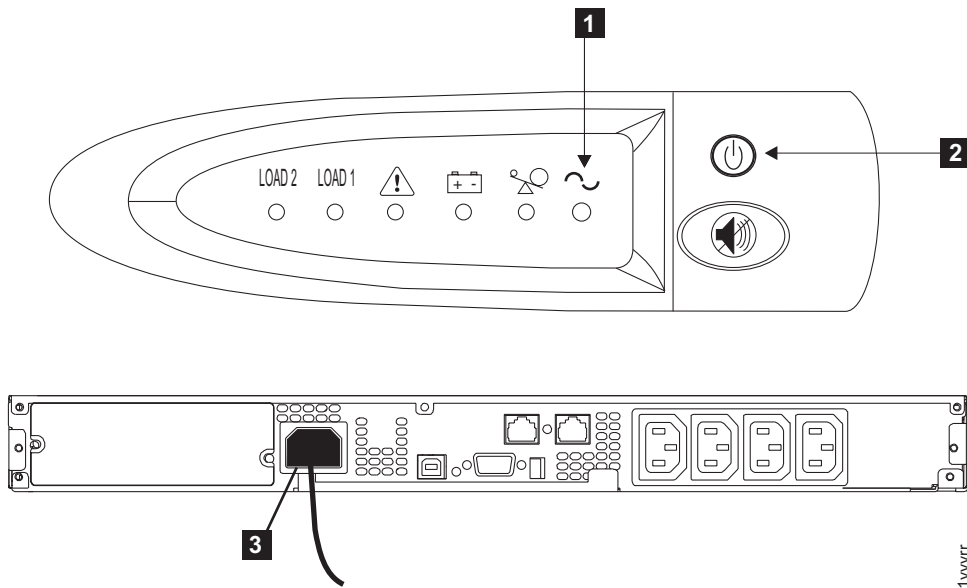

Figure 329. Front and back panels for the 2145 UPS-1U
2. Press and hold the on/off button **2** until the power light **1** is extinguished (approximately five seconds). On some versions of the 2145 UPS-1U, you need a pointed device, such as a screwdriver, to press the on/off button. The 2145 UPS-1U enters standby mode, with all indicators off. Figure 329 on page 318 illustrates the front and rear views of the 2145 UPS-1U.